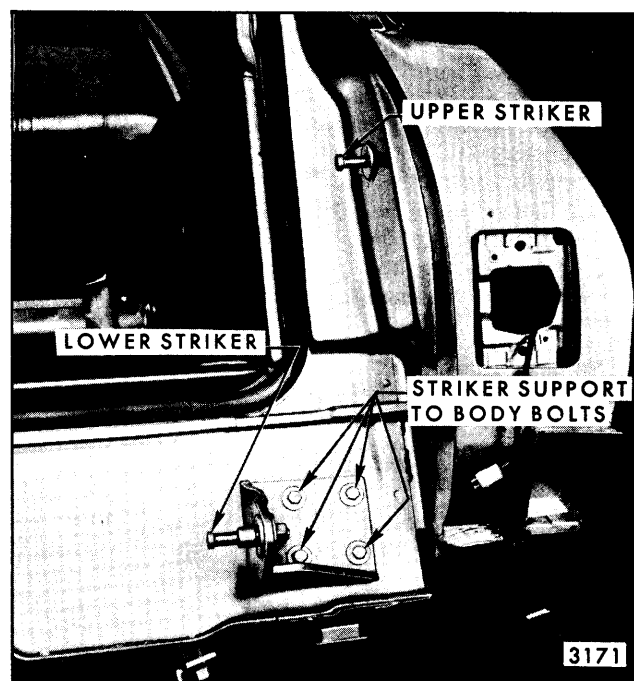

Fig. 9-31—Tail Gate Adjustments - "B" Body Shown
2. Scribe (mark) position of striker support on body and remove support (Fig. 9-31).
The striker support is adjustable up or down and side to side. The lower striker is adjustable fore or aft and side to side with usage of service shims (Fig. 9-31).